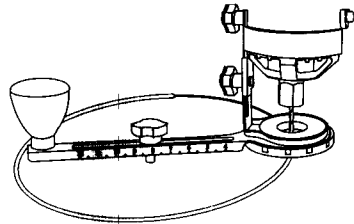

Fig. 14
- 6 When the motor is up to full speed, slowly tip the tool and circle cutter assembly to an upright position, letting the bit cut into the workpiece (see Fig. 14). Be careful to keep the pivot point located at the center of the circle to be cut. Once the tool has reached the upright position and the bit has cut through the workpiece, slowly move the tool in a clockwise direction using slow steady pressure to make the cut. Continue to cut the circle, keeping the tool upright and rotating around the circle cutter pivot point